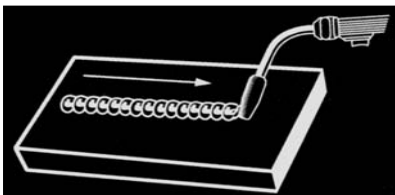

Figure 13. Stringer Bead
1. The STRINGER BEAD (Figure 13) is formed by traveling with the torch in a straight line while keeping the wire and nozzle centered over the weld joint. This is the easiest type of bead to make.